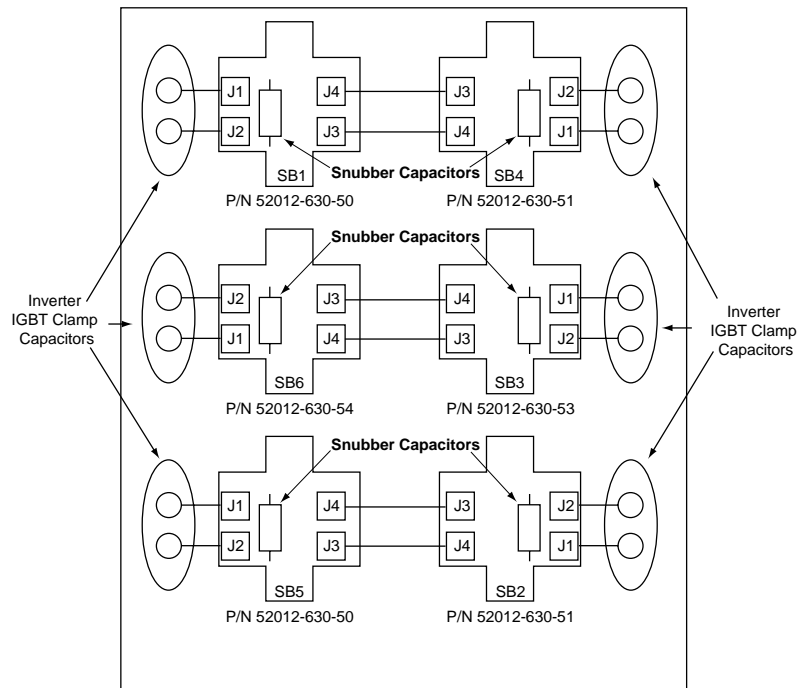

Figure 4.1.13: Inverter Snubber Board Connector and Capacitor Locations
NOTE: Replace the snubber boards in horizontal pairs: SB1 and SB4, SB6 and SB3, SB5 and SB2 (see Figure 4.1.13 on page 4.1.21).
- Snubber boards. Refer to Figure 4.1.13 on page 4.1.21 and Figure 4.1.18 on page 4.1.37 for location.
3. Using needle nose pliers, carefully disconnect the J1, J2, J3, and J4 connectors on the snubber board to be replaced (see Figure 4.1.13).
3. Using needle nose pliers, carefully connect the J1, J2, J3, and J4 connectors on the snubber board (see Figure 4.1.13 on page 4.1.21).